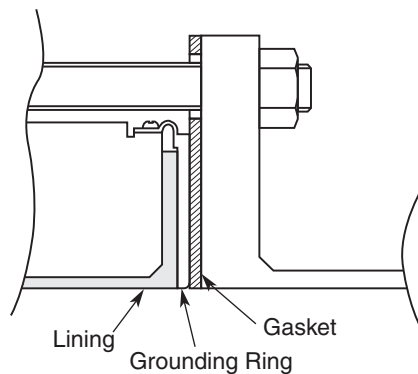

Figure 17. Installation on PVC Pipe with 316 ss Grounding Ring
1. Use this method to install the flowtube with a specified fastening torque. Install the flowtube as shown in Figure 17. The torque level for tightening the bolts is not related to the gasket material. See Table 2 for the appropriate torque. For the internal diameter of the gaskets, see Table 3.